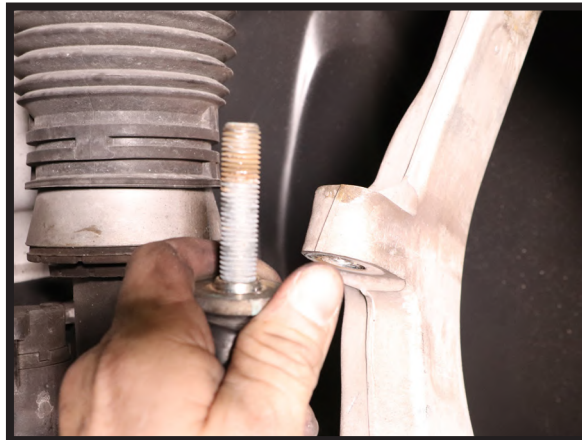

FIGURE 13
14. SEPARATE THE SWAY ARM LINK FROM THE WHEEL CARRIER MOUNT. (FIGURE 13)